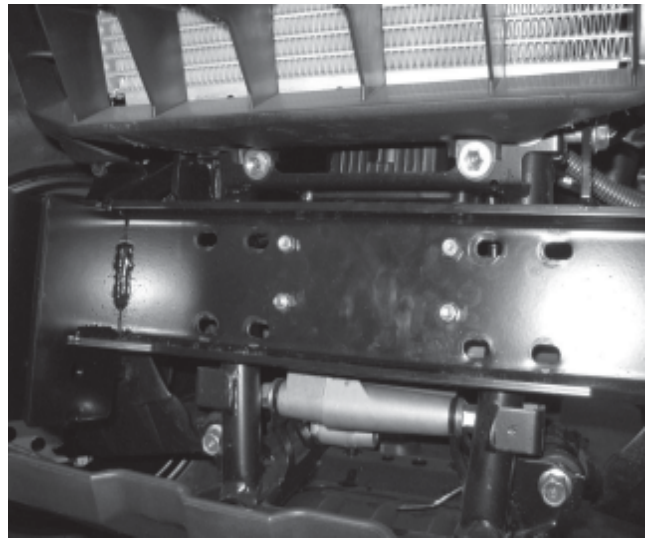

Figure 4
4. Place the front plow mounting bracket into position on the front of the vehicle. The bracket will be in front of the two main frame rails. Use the 2, M8-1.25 x 20mm flange hex bolts to help hold the mounting bracket into position. Run the M8 hex bolts through the top 2 tabs and into the mounting tabs on the frame tube. Do not tighten these bolts at this time, these are just to hold the bracket into position, see figures 4 and 5.